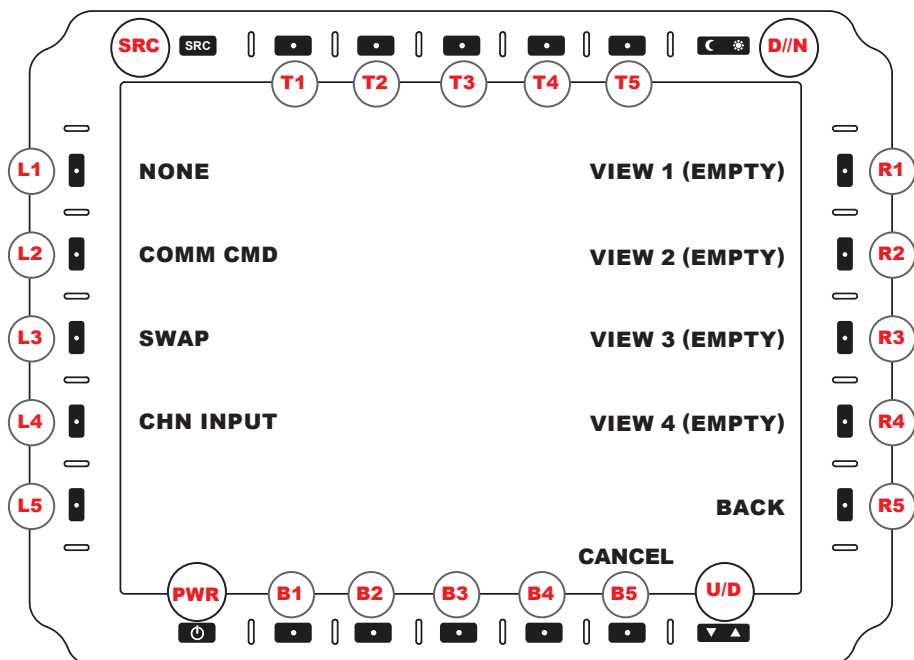

FIGURE 17
User selects a button (Figure 17) to set a specific function into the button.
**BACK (R5).** Returns to SET FUNCTION (Figure 17).
**BACK (B1).** Returns to SET FUNCTION MENU (Figure 17).